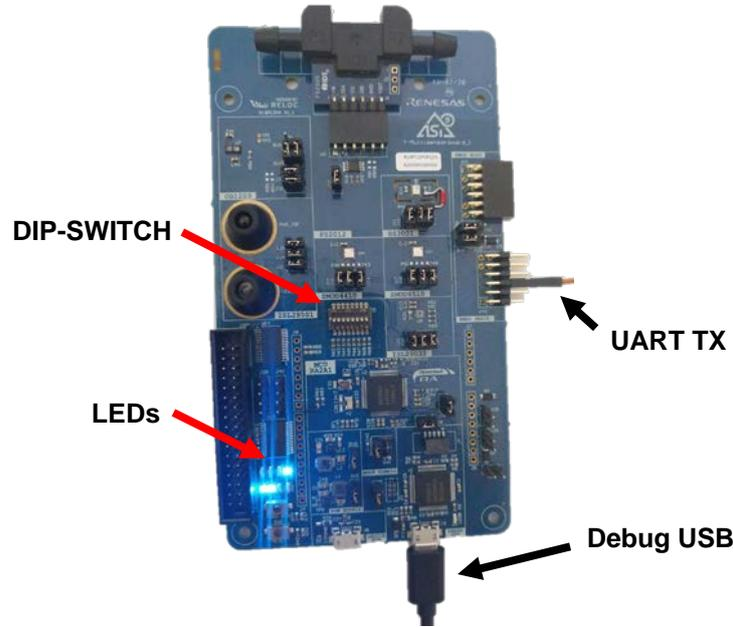

Figure 3: Out of the box demo running (FS2012 may not be included).
- b. Pin 3 of the PMOD Perip. J43 (as shown in Figure 3)